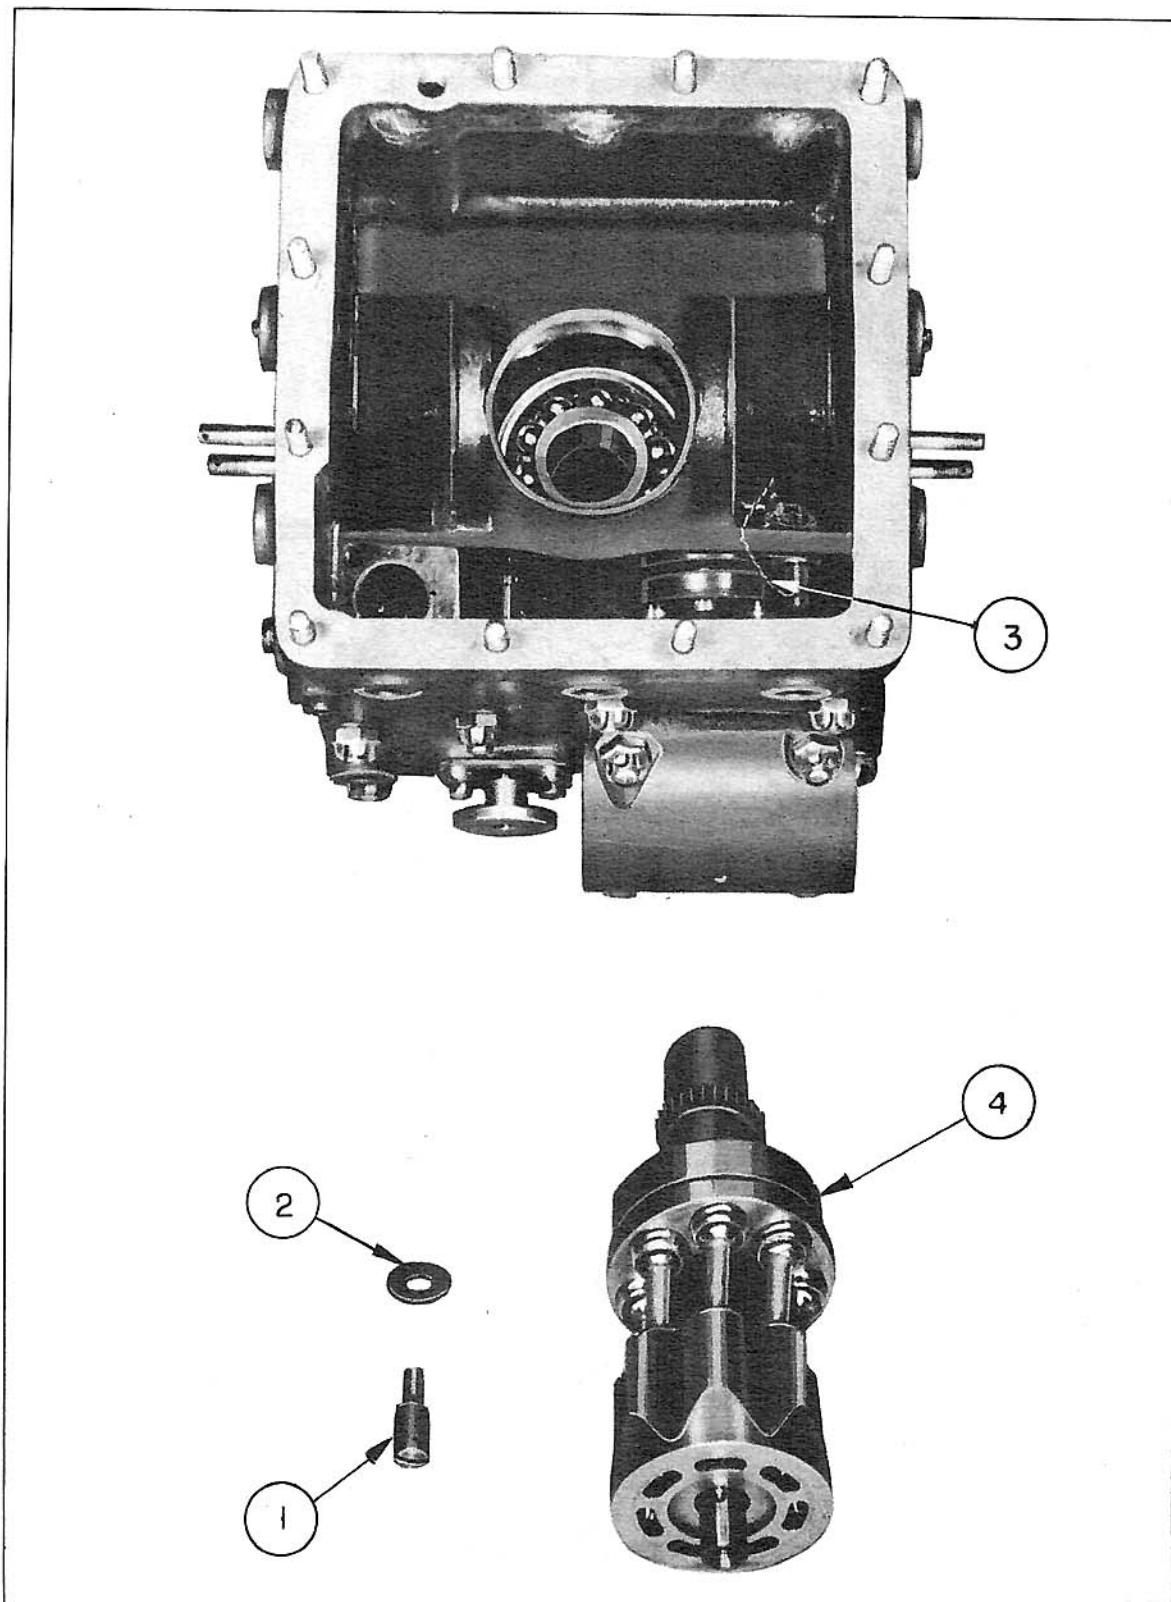

FIGURE 28
8. "A" End Rotating Assembly (Fig. 28)
9. "A" End Rotating Assembly (See Figure 28.) - a. Remove the screw (1) and retaining washer (2) which hold the "A" end rotating assembly (4) to the housing. The bearing and rotating assembly can now be pressed into the main housing by driving the "A" end shaft inward. Use a light hammer and a smooth metal rod, preferably one that has a male spline, for fitting into the "A" end shaft. DO NOT drive against the expansion plug.
5. "A" End Rotating Assembly (Fig. 28)
6. "A" End Rotating Assembly (See Figure 28.) - a. Place a "bullet nose" on the "A" end shaft to prevent damage to the bearing oil seal; then force the "A" end assembly (4) into the bearing, using special Vickers tool T-19151 and a small hammer, striking light blows. Clamp the assembly down with washer (2) and screw (1). Safety-wire with the lockwire (3) which has already been attached to the "B" end locking screw.